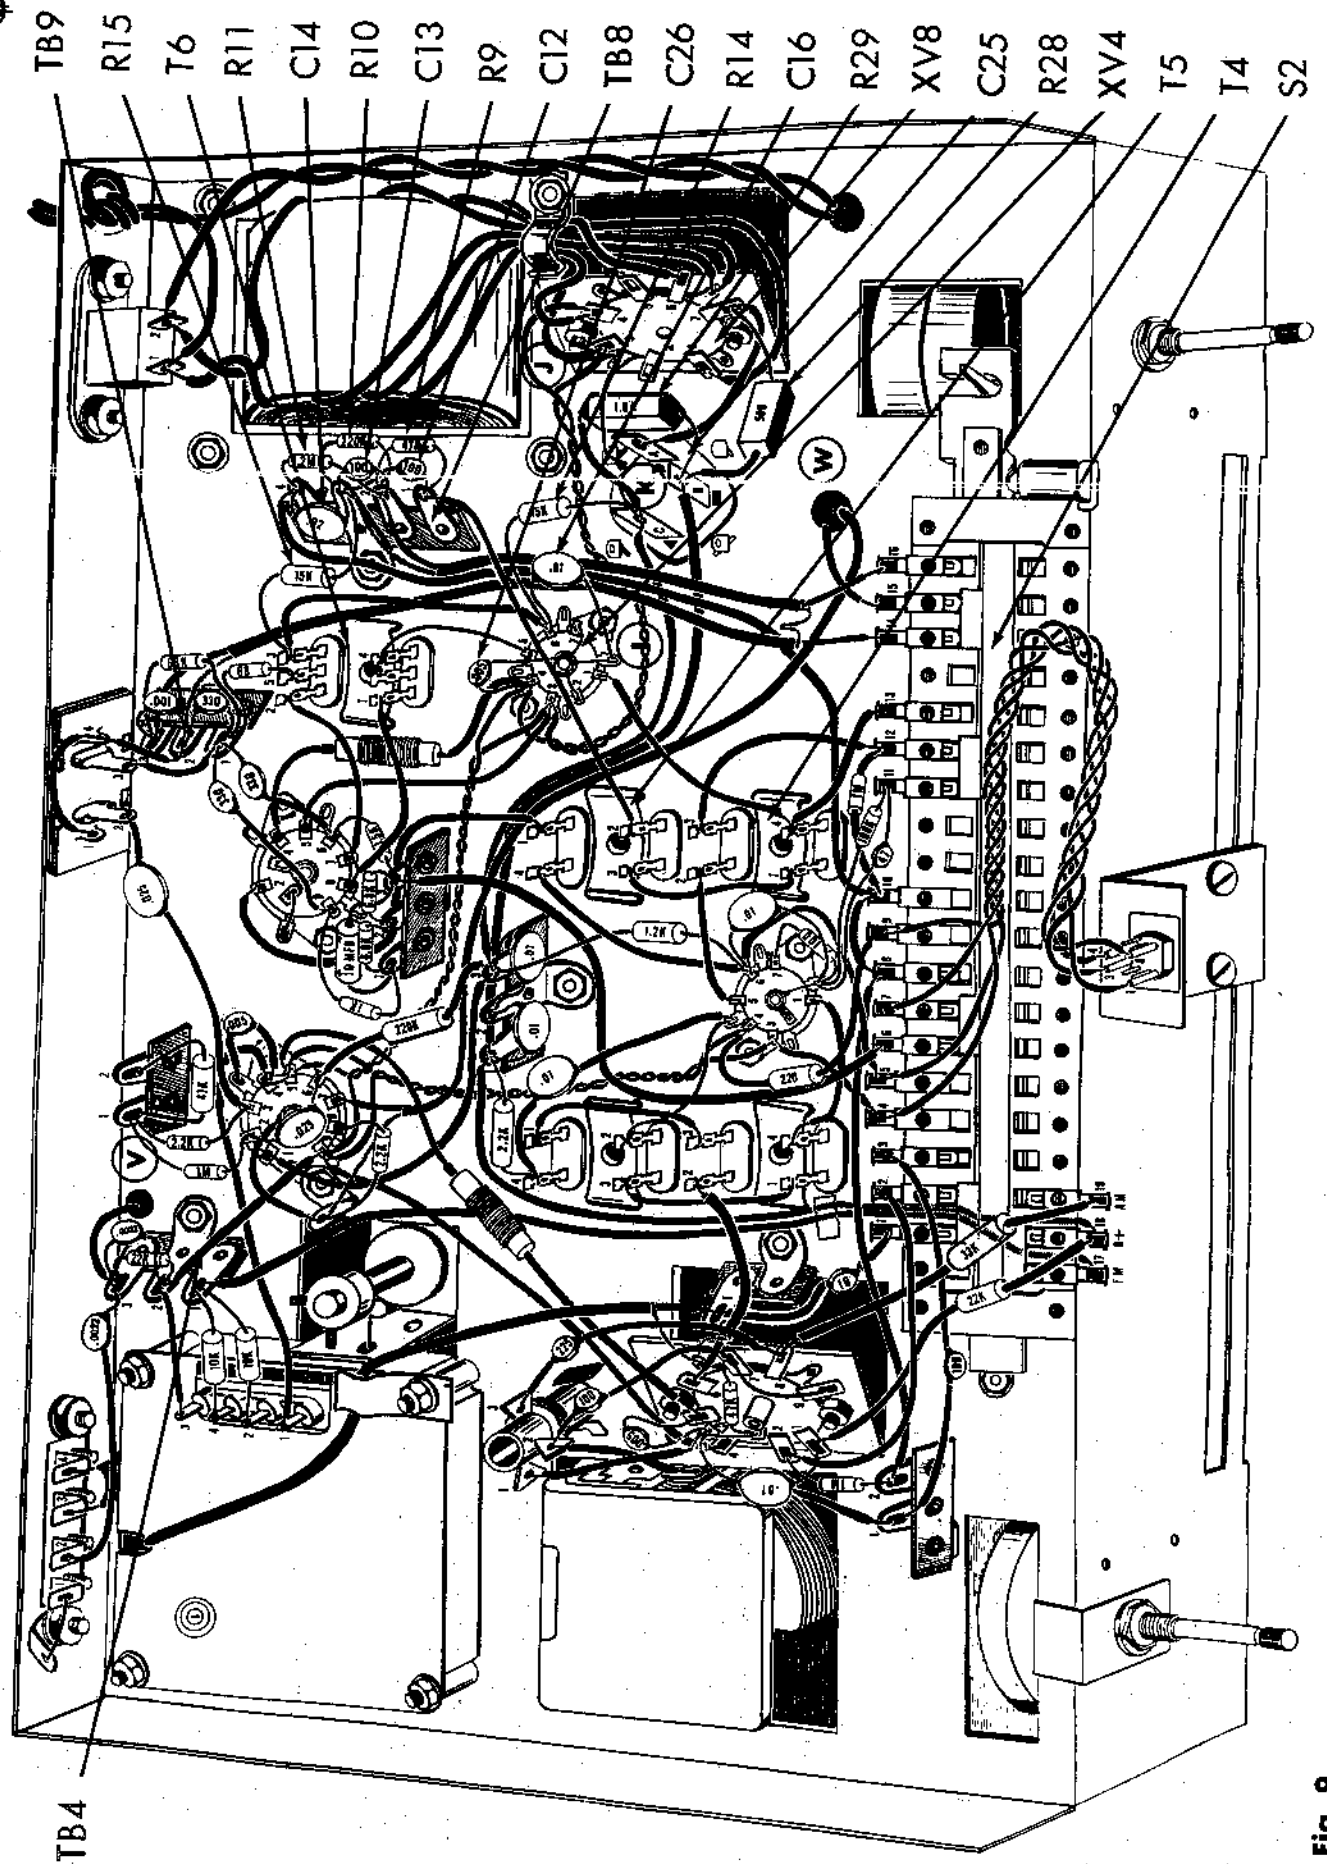
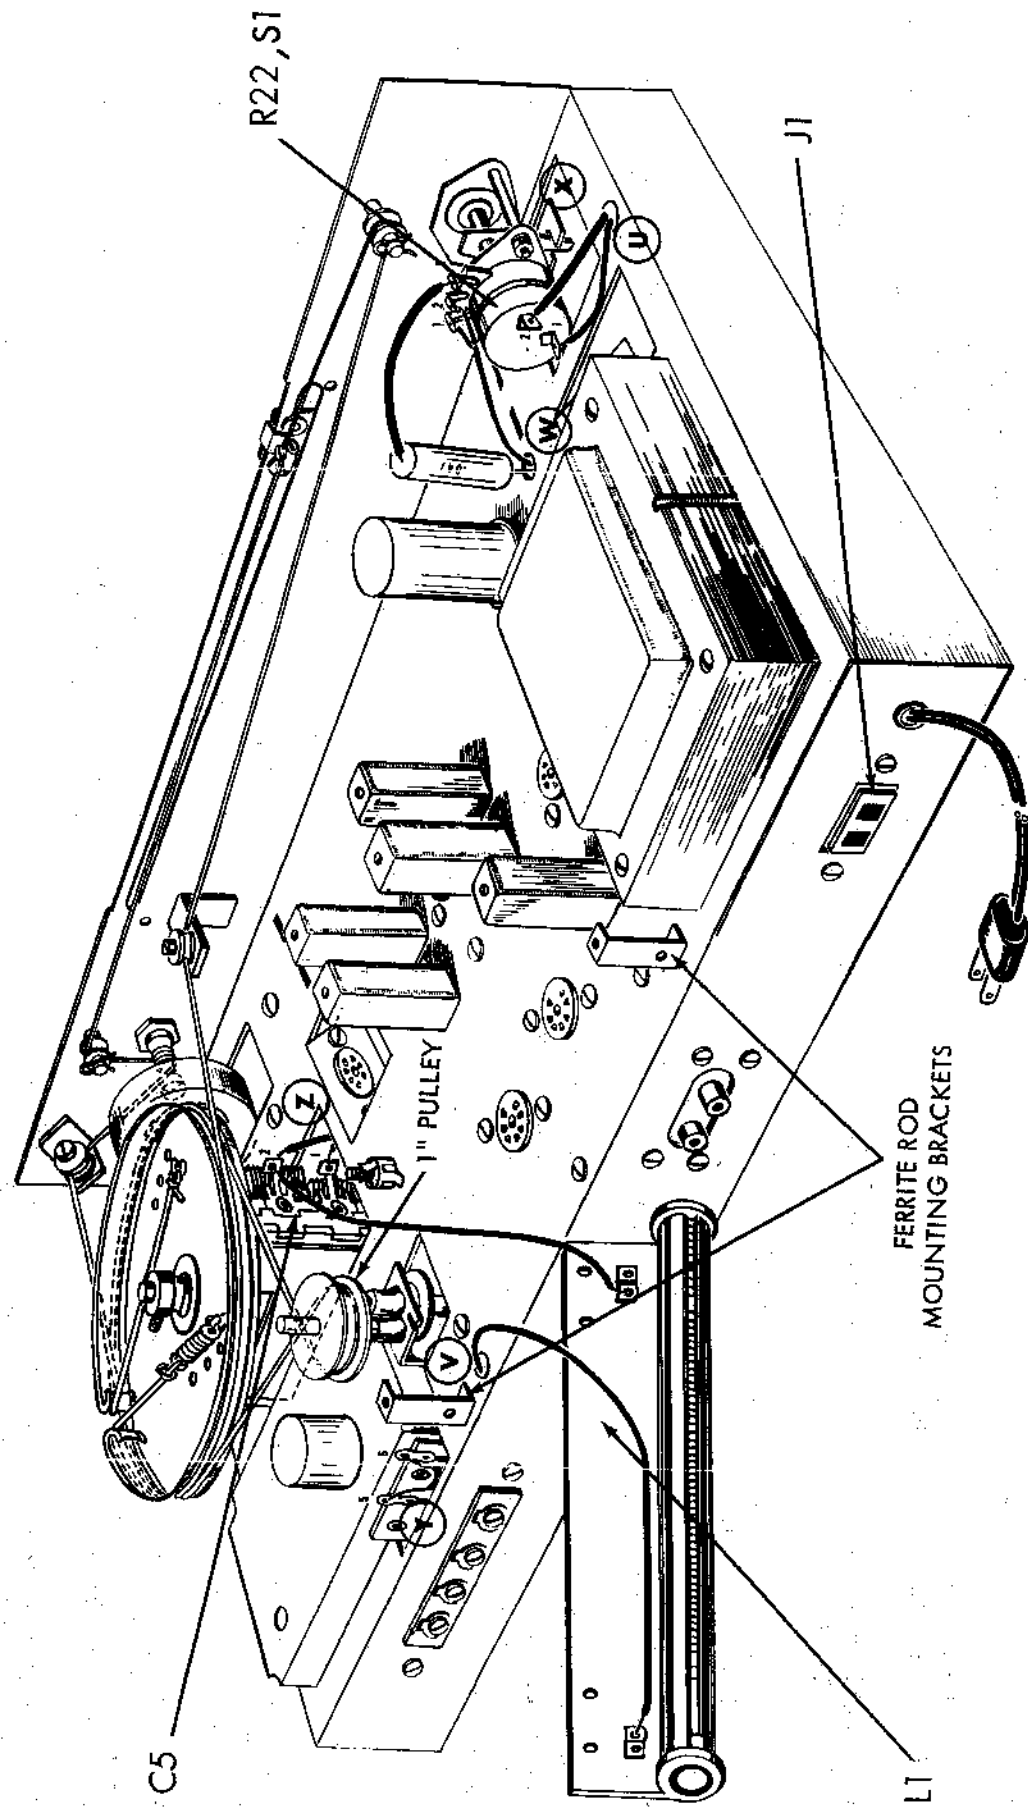
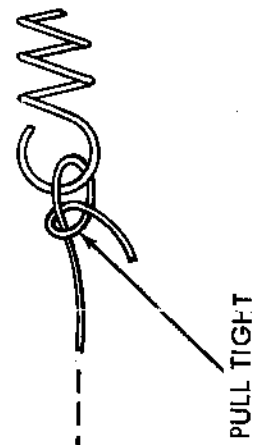

Fig. 9
Fig. 10
Fig. 12
- (1) 1. Fig. 9. Cut both leads on a 2.2M (red, red, green, silver) resistor, R11, to 3/4". Connect from TB8-2 (C) to TB8-4 (C).
- (1) 2. Fig. 9. Cut both leads on a 15K (brown, green, orange, silver) 1 watt resistor, R15, to 3/4". Connect from T6-3 (S2) to TB8-3 (C).
- (1) 3. Fig. 9. Cut both leads on a 220K (red, red, yellow, silver) resistor, R10, to 1/2". Connect from TB8-2 (C) to TB8-3 (C).
- (1) 4. Fig. 9. Cut both leads on a 47K (yellow, violet, orange, silver) resistor, R9, to 1/2". Connect from TB8-1 (C) to TB8-2 (C).
- (1) 5. Fig. 9. Cut both leads on a 100 mmf disc capacitor, C13, to 1/2". Connect from TB8-2 (C) to TB8-3 (C).
- (1) 6. Fig. 9. Cut both leads on a 100 mmf disc capacitor, C12, to 3/4". Connect from TB8-1 (C) to TB8-3 (C).
- (1) 7. Fig. 9. Cut both leads on a .02 mfd (20K or 20,000 mmf) disc capacitor, C14 to 1/2". Connect from TB8-3 (C) to TB8-4 (S3).
- (1) 8. Fig. 9. Cut both leads on a .047 mfd (yellow, violet, orange, white, blue) molded capacitor C22, to 1 1/4". This capacitor is mounted on the top of the chassis, as may be seen in figure 10. Cover one lead with a 1" piece of spaghetti. Push this lead from the top of the chassis, through hole "W" to the bottom of the chassis. Connect this lead to S2-15 (S1).
- (1) 9. Fig. 9. Connect a 3/4" piece of bare wire to center lug (C) on XV4 and connect to ground lug "I" (C) on XV4.
- (1) 10. Fig. 9. Connect one 3/4" piece of bare wire from XV4-2 (S1) to the center lug (C) on XV4. Connect a second 3/4" piece of bare wire from XV4-7 (S1) to the center lug (C) on XV4.
- (1) 11. Fig. 9. Cut both leads on a .005 mfd (5K or 5000 mmf) disc capacitor, C26, to 1/2". Connect from XV4-4 (S4) to the center lug on XV4. Solder the lead to the center lug (S4).
- (1) 12. Fig. 9. Cut both leads on a .01 mfd (10K or 10,000 mmf) disc capacitor, C16, to 1/2". Connect from XV4-6 (C) to ground lug "I" (S2) at XV4.
- (1) 13. Fig. 9. Connect a 1" piece of bare wire from T6-4 (S1) to XV4-5 (S1).
- (1) 14. Fig. 9. On both ends of a 4" piece of shielded cable, strip the outer insulation back 1/2". Twist the shield strands together. On both ends, strip the insulation off 1/4" from the end of the inner conductor. On one end of the wire, connect the shield strands to TB8-3 (S6) and the inner conductor to TB8-2 (S5). Run the cable along the chassis, as shown. Connect the inner conductor on the other end to S2-16 (S1).
- (1) 15. Fig. 9. On both ends of a 6" piece of shielded cable, strip the outer insulation back 1/2". Twist the shield strands together. On both ends, strip the insulation off 1/4" from the end of the inner conductor. On one end of the wire, connect the shield strands to TB9-2 (S4) and the inner conductor to TB9-3 (S3). Run the cable along the chassis, as shown. Connect the inner conductor on the other end to S2-14 (S1). Connect the outer shield at this end of the cable to the outer shield of the cable connected to the switch in the previous step. Solder these two groups of shield strands together. Dress away from the chassis so that the shield strands will not touch the chassis at any point.
- (1) 16. Fig. 9. Cut both leads of a 15K (brown, green, orange, silver), 1 watt resistor, R14, to 3/4". Connect from XV4-6 (S3) to C25-C (C). Dress resistor close to the chassis.
- (1) 17. Fig. 9. Connect a 2 1/2" piece of white wire from T5-2 (S1) to TB8-1 (S3).
- (1) 18. Fig. 9. Connect a 1 1/2" piece of white wire from T4-3 (S1) to S2-12 (S2).
- (1) 19. Fig. 9. Connect a 1" piece of white wire from T4-4 (C) to S2-13 (S1).
- (1) 20. Fig. 9. Connect a 2" piece of white wire from T4-4 (S2) to XV4-1 (S1).
- (1) 21. Fig. 9. Connect a 1" piece of bare wire from ground lug "J" (S1) at XV8 to ground lug "K" (S1) at C25.
- (1) 22. Fig. 9. Connect a 1 3/4" piece of red wire from XV8-7 (C) to C25-A (S1).
- (1) 23. Fig. 9. Cut both leads on a 500Ω, 5 watt resistor, R28, to 3/4". Cover one lead with a 1/2" piece of spaghetti and connect to C25-B (C). Connect the second lead to XV8-7 (S2).
- (1) 24. Fig. 9. Cut both leads on a 1800Ω, 5 watt resistor, R29, to 1 1/4". Cover each lead with a 1" piece of spaghetti. Connect from C25-B (S3) to C25-C (S3).
- (1) 1. Fig. 10. From hole "W" connect the inner conductor of the shielded lead to R22-2 (S1) and the twisted shield strands to R22-1 (S1).
- (2) 2. Fig. 10. A .047 mfd capacitor has been previously mounted with one lead passing to the bottom of the chassis through hole "W". Cover the remaining lead of this capacitor with a 1" piece of spaghetti and connect to R22-3 (S1).
- (3) 3. Fig. 10. Connect the grey lead from hole "Z" near the variable capacitor, C5, to C5-2 (C). Dress the lead away from the rotor on the capacitor towards the front of the chassis.
- (4) 4. Fig. 10. From the ferrite rod assembly, L1 push the black lead through hole "Y" to the bottom of the chassis. Connect the white lead to C5-2 (S2). Connect the black lead to TB4-3 (S4). See Fig. 9.
- (5) 5. Fig. 10. From hole "Y", connect one lead from the flat cable to terminal 5 (S1) on the FM Front End Assembly and the second lead to terminal 6 (S1).
- (6) 6. Fig. 10. In the 1" pulley, insert a #8-32 set screw. Mount the pulley on to the RF Assembly shaft. Push the pulley down on the shaft so that 5/16" of the shaft protrudes about the top of the pulley. Tighten the pulley to the shaft with the set screw on the pulley.